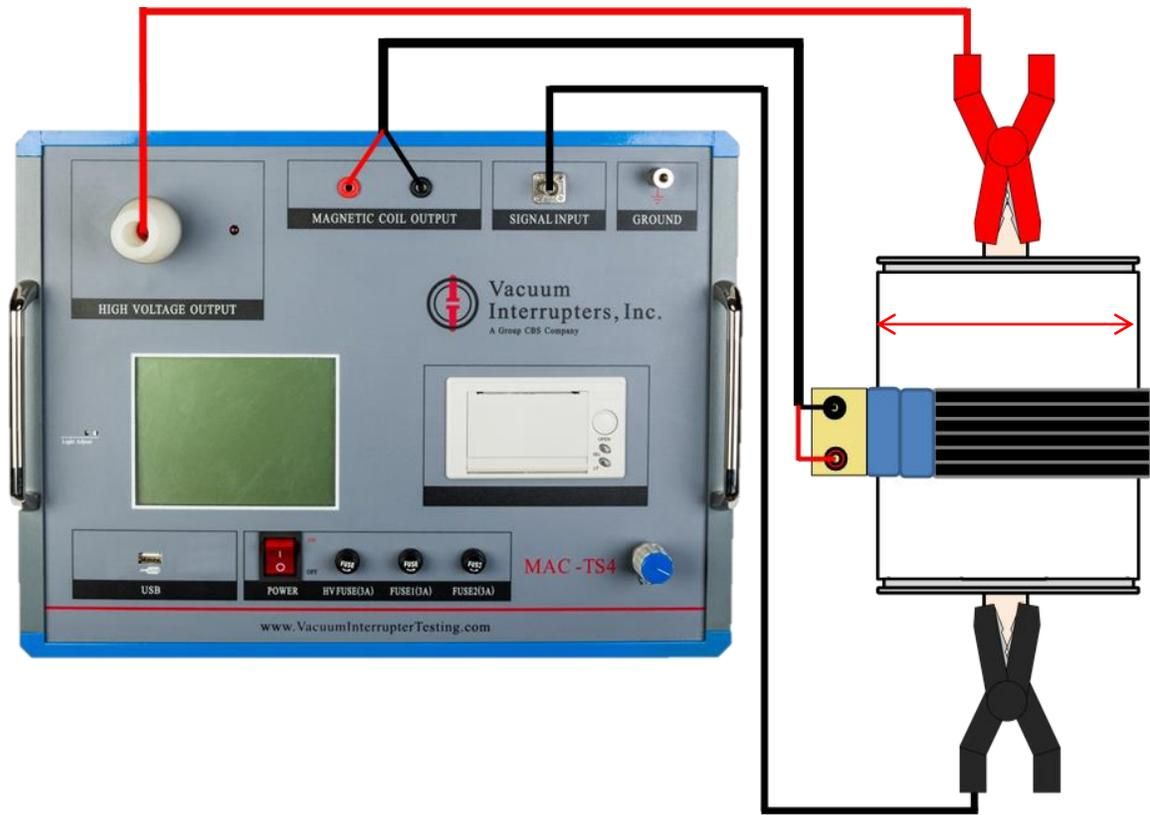

Figure 6. Flexible magnetic field coil connection diagram
Wrap the flexible magnetic field coil around the vacuum interrupter to be tested. In order to acquire sufficient magnetic field for the test, a minimum of FIVE full wraps is necessary for accurate results. Secure flexible magnetic field coil connectors together with clips attached on both sides of the connector. Ensure that the flexible magnetic field coil is wrapped tightly around the center of vacuum interrupter where the contacts separate. Secure the flexible magnetic field coil to prevent it from making contact with the bus, bus brackets, or metal end-caps of the vacuum interrupter when testing is in progress. (See Figure 6)
Connect the red, high-voltage clamp to one conductive end of the vacuum interrupter, and connect the black, signal wire with the opposite conductive end of the vacuum interrupter. (See Figure 6)
Connect the Magnetic Coil Output wire with the flexible magnetic field coil connector. (See Figure 6)
10. Select the appropriate 'Curve Number', based on the outer diameter of the center of the vacuum interrupter, from the Curve Selection Table (Table 1). In most cases, this is the outer diameter of the insulation of the interrupter shown by the red arrows in Figure 6. Values can be changed by pressing down on the selection knob, rotating selection knob until desired value is shown, and pressing down again on the selection knob to lock in selection.